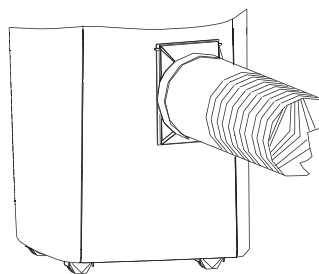

Fig 9
9. The exhaust air duct and its accessories are fully assembled as shown in Fig 9.